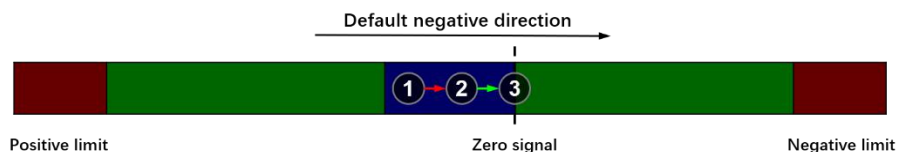

Figure 15.15.6
- ①→②: Workbench accelerates to returning speed in negative direction.
- ③→④: Workbench enters zero signal area and decelerates to 0.
- ④→⑤: Workbench accelerates to crawl speed in opposite direction.
- ⑥: Workbench stops at side of zero signal area, if Z-phase is selected, workbench stops at Z-phase signal.
- Near-point signal mode, as show in Figure 15.15.6: